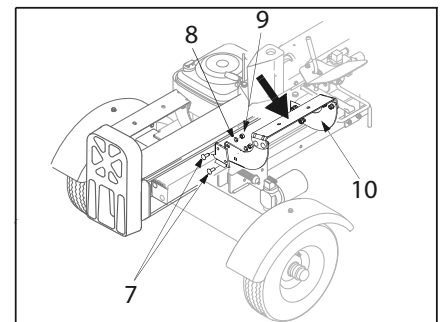

Fig. 8
- Unscrew the support (10) from the splitting column, on the side of the control valve (Fig. 8).